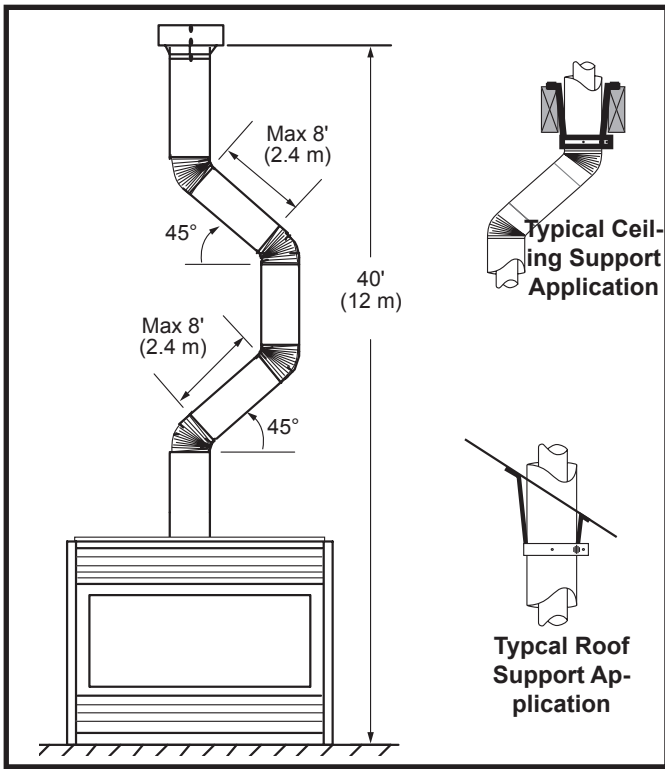

Fig. 31 Typical vertical roof application.
- 7DVCS must be used to support offsets. (Fig. 31)